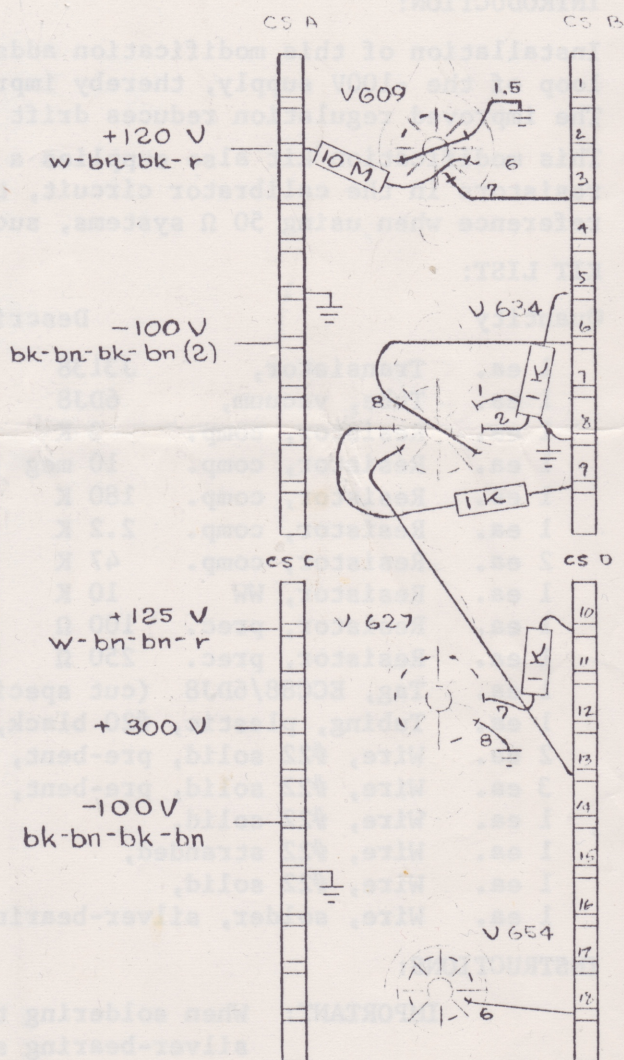

FIG. 1
- ( ) 1. Locate the ceramic strips, CSA, CSB, CSC & CSD, which are supporting the components associated with the -100 V supply (see Fig. 1). Also, note the slot numbering arrangement (i.e., CSA-1 indicates ceramic strip "A" and the first notch).
NOTE: Fig. 1 shows the completed modification.
NOTE: Refer to Fig. 1 while performing Steps 4 through 19.